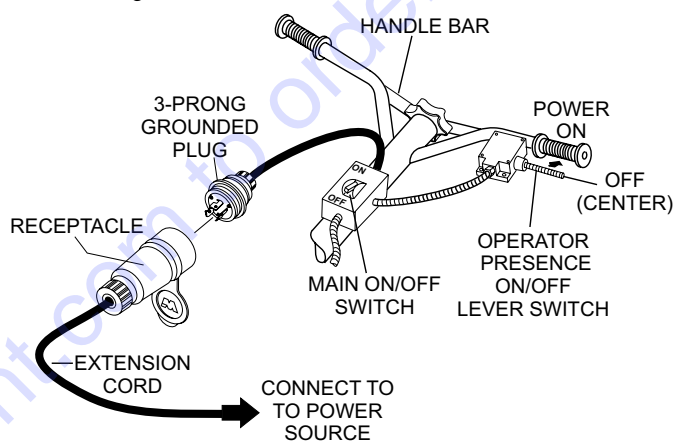

Figure 10. Starting Electric Motor
1. Using an extension cord (Figure 10) of adequate size, plug one end of the extension cord into the trowel power plug.
3. Place the main ON/OFF switch (Figure 10) in the **ON** position.